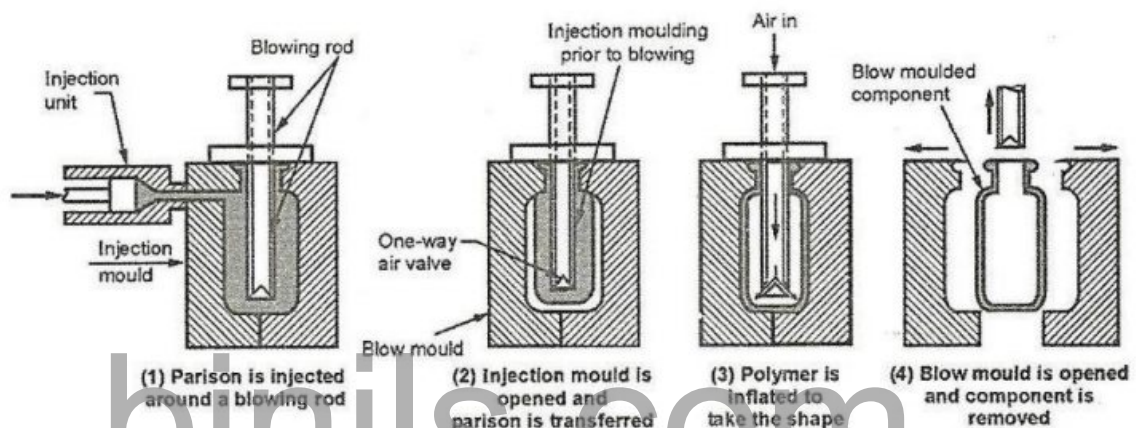

Figure 5.7 Injection Blow Moulding
- The only difference is that, in the injection blow moulding the starting parison is injection moulded rather than extruded. Refer Figure 5.7.